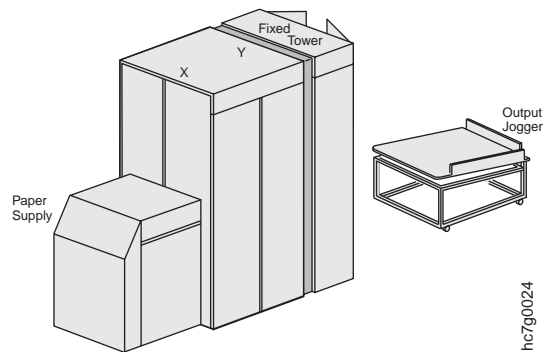

Figure 326. Right Side View of the InfoPrint Color 100
3. Open the rear access doors of the fixed tower, as shown in Figure 326.